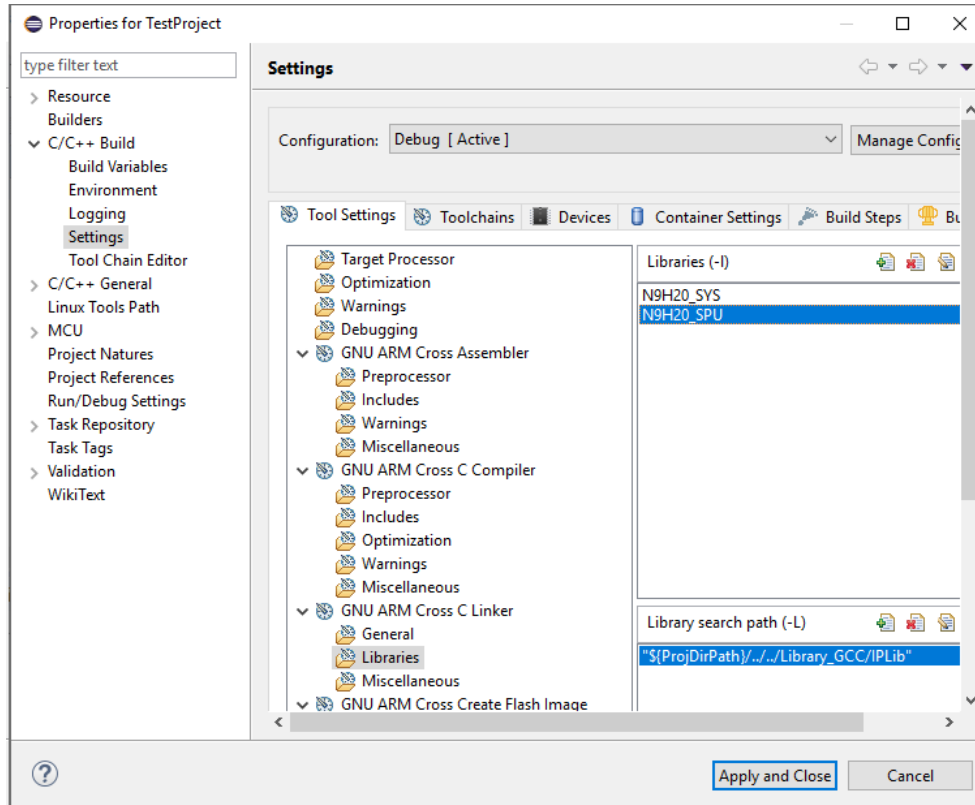
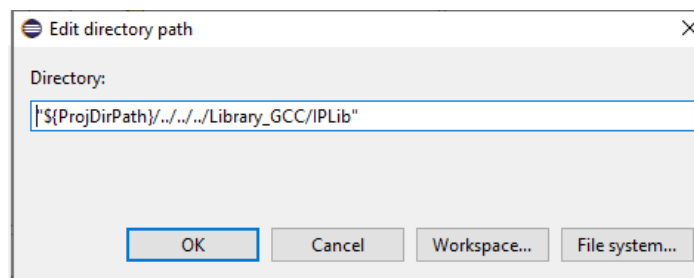

Figure 2-24 Setup Linked Library
Figure 2-25 Setup Linked Library Path
10. Link necessary Libraries and setup library search path as shown in Figure 2-24 and Figure 2-25, respectively.